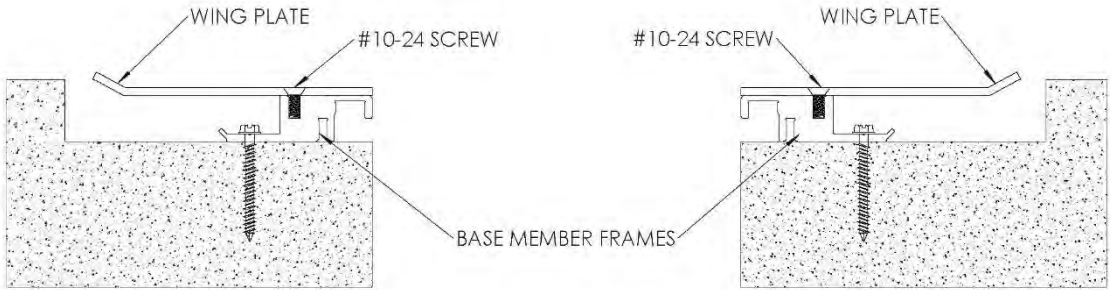

FIGURE 3
- 3. Reinstall the wing plate to the base member frame with the #10-24 screw. *Note: This step not necessary on the 2” and 4” size.* **See Figure 3**